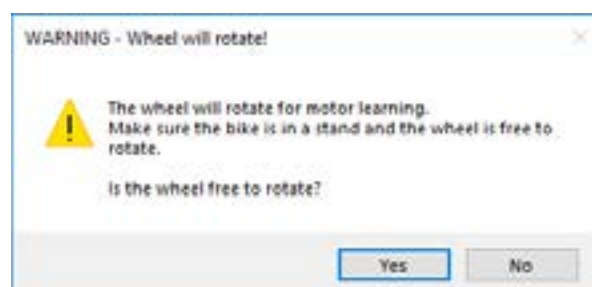

Figure 3.21 Auto-update – Warning
1. If the XML configuration file needs updating (Fig. 3.21), place the bike in the stand, the motor and the wheel must be free to rotate, and confirm (press YES) that the motor may be turned. This step is skipped if the XML configuration file is current.